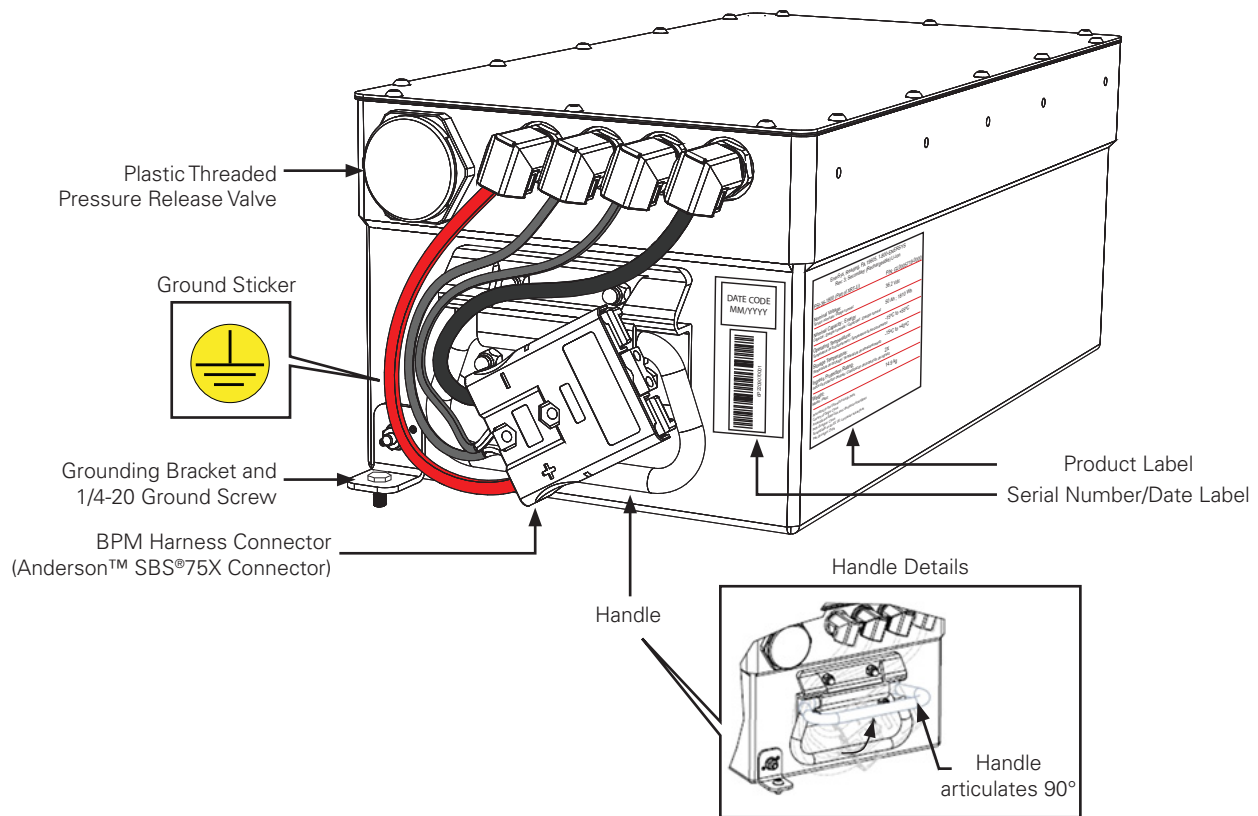
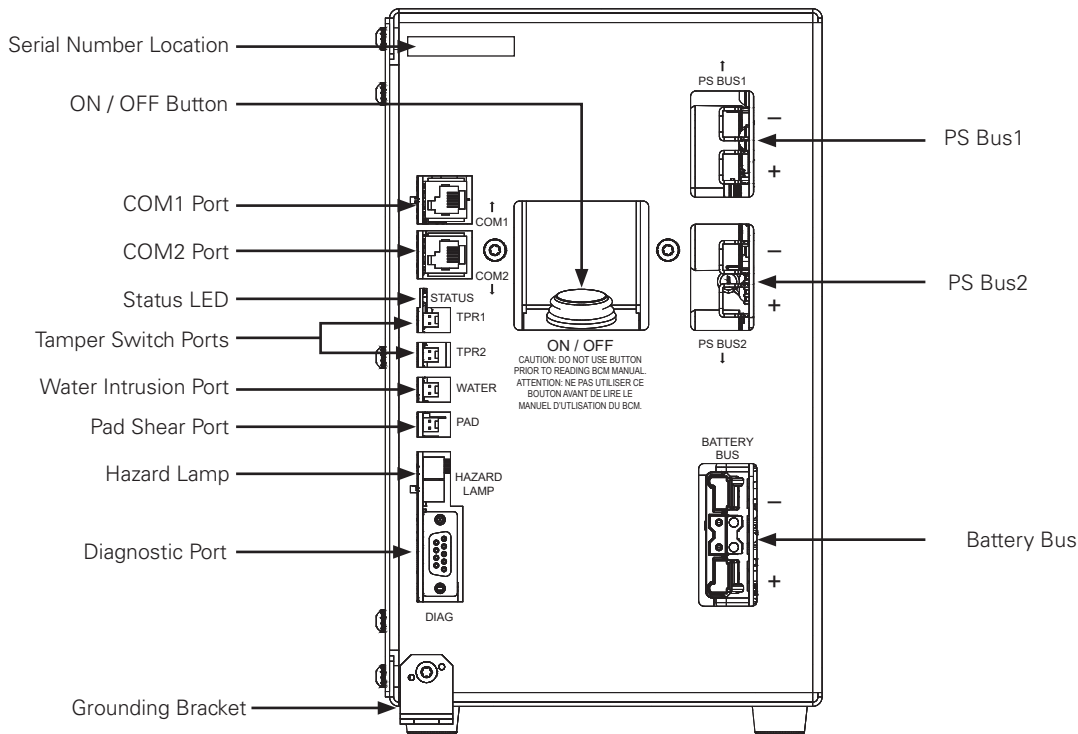

Fig. 2-2, Battery Power Module (BPM)
Fig. 2-3, Battery Control Module (BCM)
- See **Fig. 2-2, Battery Power Module (BPM)** and **Fig. 2-3, Battery Control Module (BCM)** for silkscreen and sticker labels.